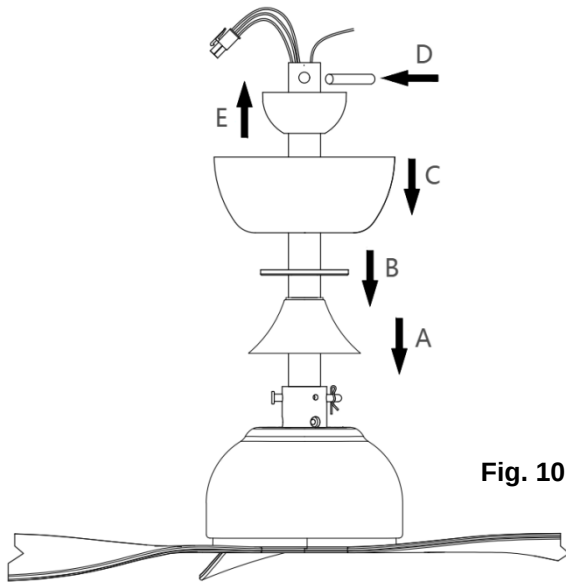

Fig. 10
9. Insert the couplinf cover, canopy cover, and canopy over the down rod, and install the ball joint and dowel pin back onto the down rod. (Fig. 10)